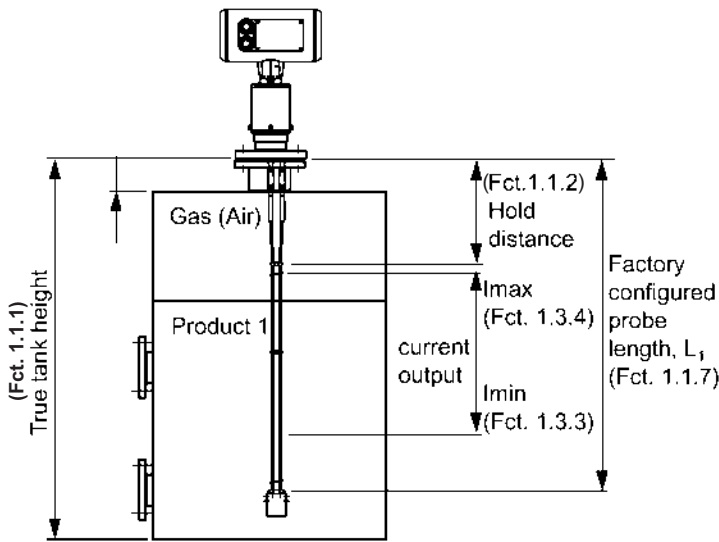

Figure 32
Refer to Figure 32.
- Setting the tank height (configuration parameter Fct. 1.1.1) equal to L1 (factory configured probe length Fct. 1.1.7) avoids having a non-measurable zone underneath the probe where the measurement shown on the display freezes. Refer to Figure 32 and compare “True Tank Height” to “Factory Configured Probe Length”.